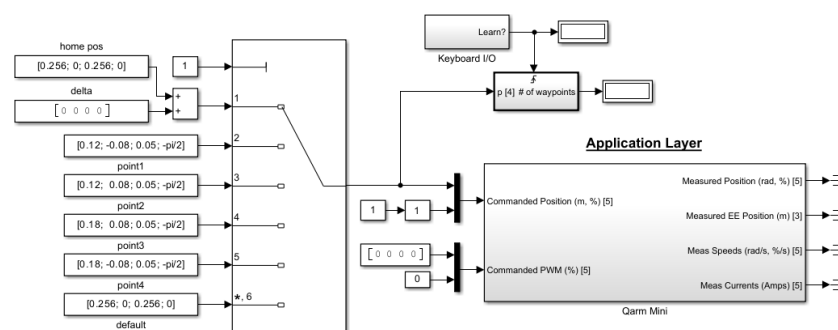

Figure 2. Teach Pendant (Learn)
- The multiport switch in Figure 2, takes in x, y, z positions (in meters, relative to the base) and γ (gamma), the end-effector angle, as inputs.